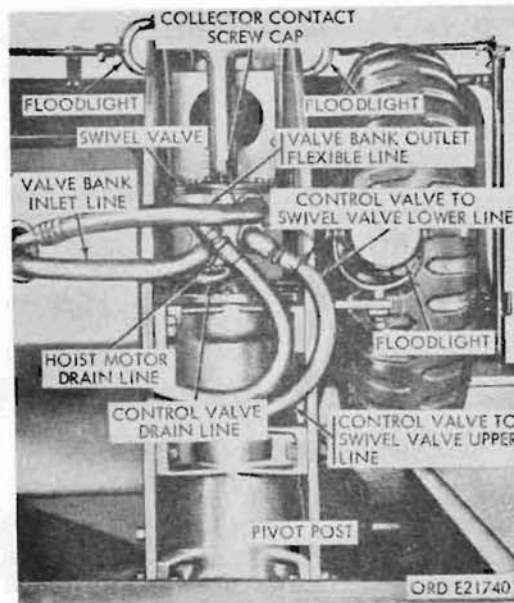

Figure 305. Swivel valve, hoses, and floodlights
- (6) Swivel valve. The swivel valve (fig. 305) is mounted on the top of the pivot post and provides a means of transmitting the hydraulic oil to the crane-operating units. This valve permits free rotation of the wrecker crane assembly. The swivel valve consists of an inner hub and oil seal body which are held together by a swivel valve guide and sealed at the top by a plate and gasket.
(18) Operator's cab. The sheet steel operator's cab, bolted to the right side of the shipper support, contains seat and backrest cushion assemblies for the crane operator. The control valve assembly is installed on a shelf in front of the operator.
(19) Floodlight assemblies. Two cab floodlight assemblies (fig. 305) mounted on cab floodlight mountings, and one crane floodlight assembly, mounted on a bracket on the shipper support are provided for night operation. All three floodlight assemblies are identical. Lamp units are sealed-beam type controlled by switches on each light. All lights are connected to a master switch on the instrument panel of the truck cab.